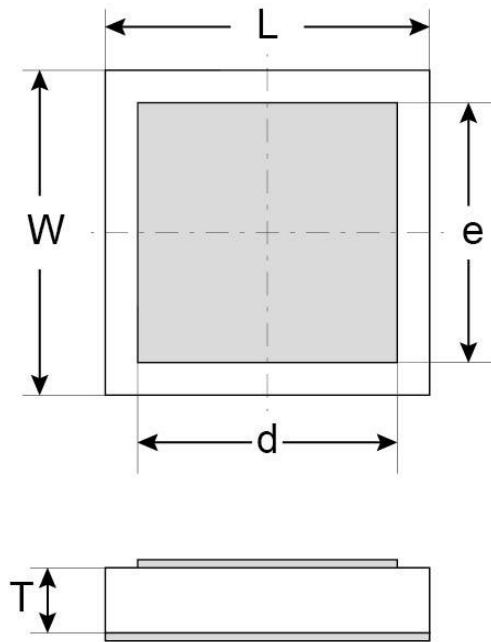

Figure 7 - Package outline drawing
- (1) Other film frame carrier are possible on request
- (2) Au = TiWAu (0.3µm) / Au (3µm)
- (3) Refer to Figure 7
- (4) missing capacitors can reach 0.5%